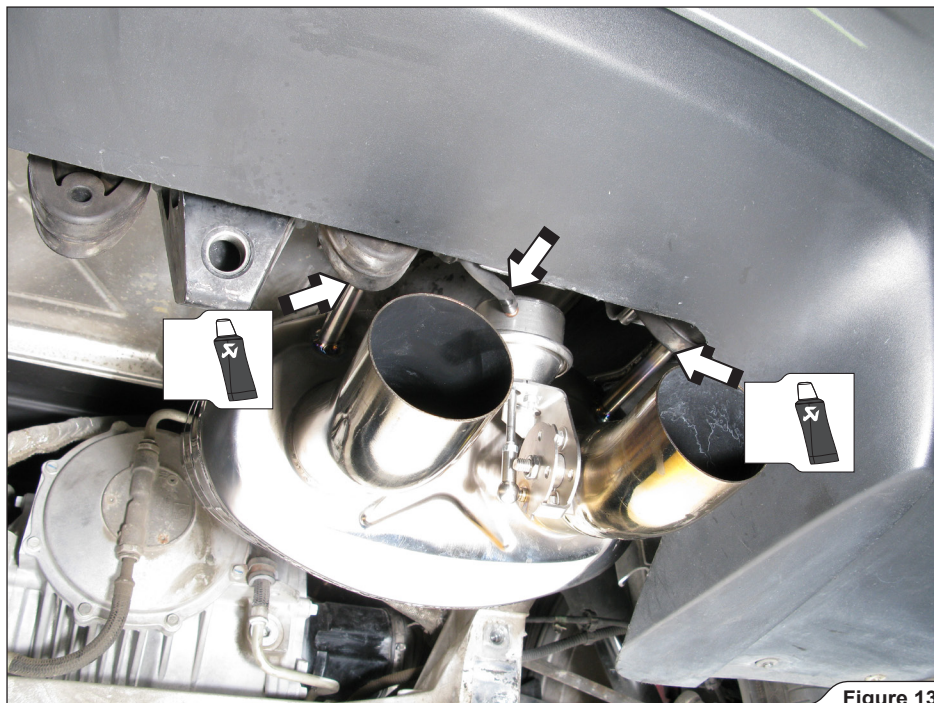

Figure 13
4. **For Slip-On and Evolution:** route the muffler inlet tubes over the differential and hang the mufflers onto the stock rubber brackets. Connect the vacuum tubes with vacuum actuators (**Figure 13, 14**).